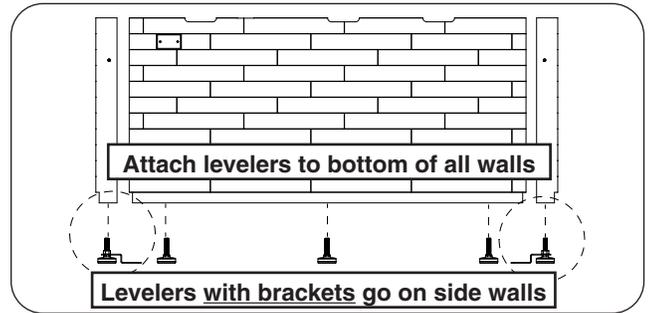

Fig. 7-1 Attach levelers
2. Carefully lay down all pieces that make up the island base and attach the levelers (see Fig. 7-1).
**Note:** 4 of the levelers have floor mounting brackets pre-installed. Use 2 on each side wall. See Fig. 7-1.